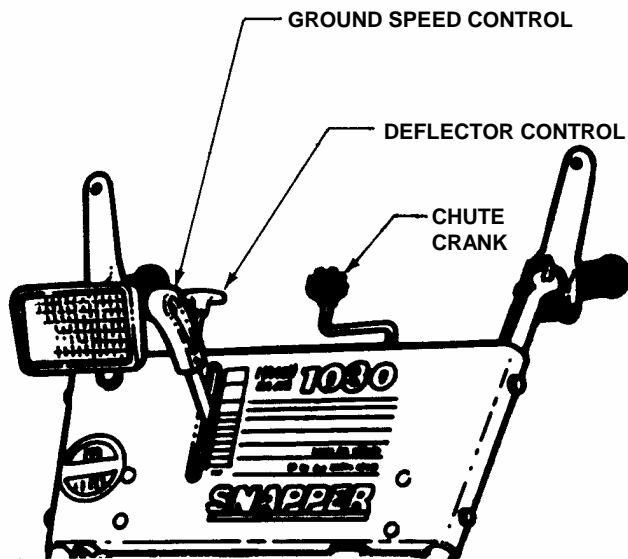

FIGURE 2.5
1. Move ground speed control to the desired speed position. See Figure 2.5.
3. Rotate chute crank to position discharge chute in desired direction. Refer to Figure 2.5.
1. Move wheel drive control lever against handle to engage wheel drive. Ground speed can be adjusted while the machine is moving by changing position of the ground speed control. Machine has six forward speeds and one reverse. Refer to Figure 2.5.